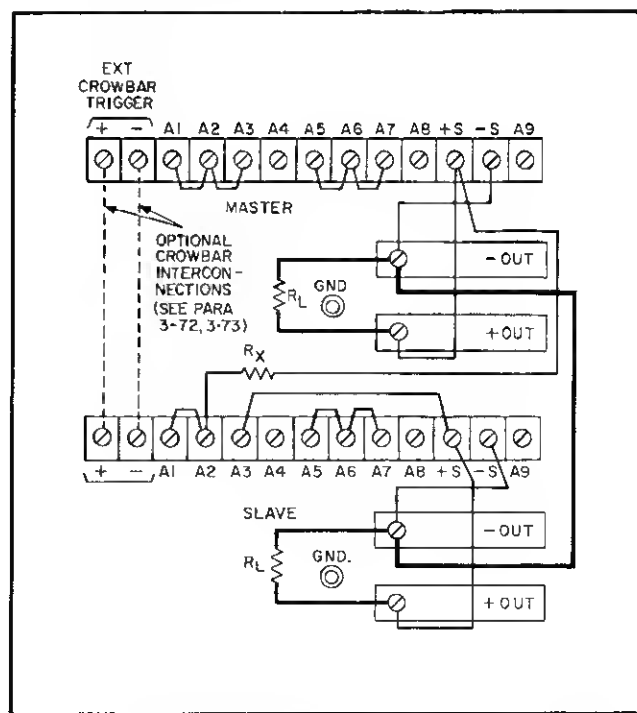

Figure 3-14. Auto-Tracking Operation of Two Units
**3-68** Figures 3-14 and 3-15 show the rear panel interconnections required to operate two or three supplies in the auto-tracking mode. This mode of operation allows two or three supplies that share a common negative output bus to power separate loads and have their outputs simultaneously programmed by the voltage and current controls of a master supply. Unless their outputs are to be equal, the supply that is to have the greatest output voltage must be selected as the master. The output voltage of each slave supply remains a constant percentage of the master's with the percentage for each slave established by that slave's voltage control settings and the choice of its external programming resistor  $R_X$ . Any of the supplies included in this manual can be used as an auto-tracking slave, and any well-regulated variable output supply can be used as the master.
**3-73** In order to have all supplies in an auto-tracking combination crowbar simultaneously if any of them has an overvoltage condition, parallel their crowbar circuits as shown in Figure 3-14 or 3-15. Set the overvoltage potentiometer in each supply so that it trips at a point slightly above the voltage that supply will provide.